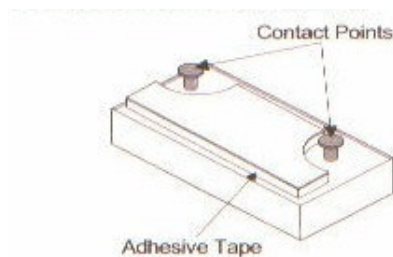

Figure 4
- With the control box turned on, short the two contacts, shown in Figure 4, on the detector for about 5 seconds. It does not matter if the system is armed or disarmed, the alarm will be transmitted either way.